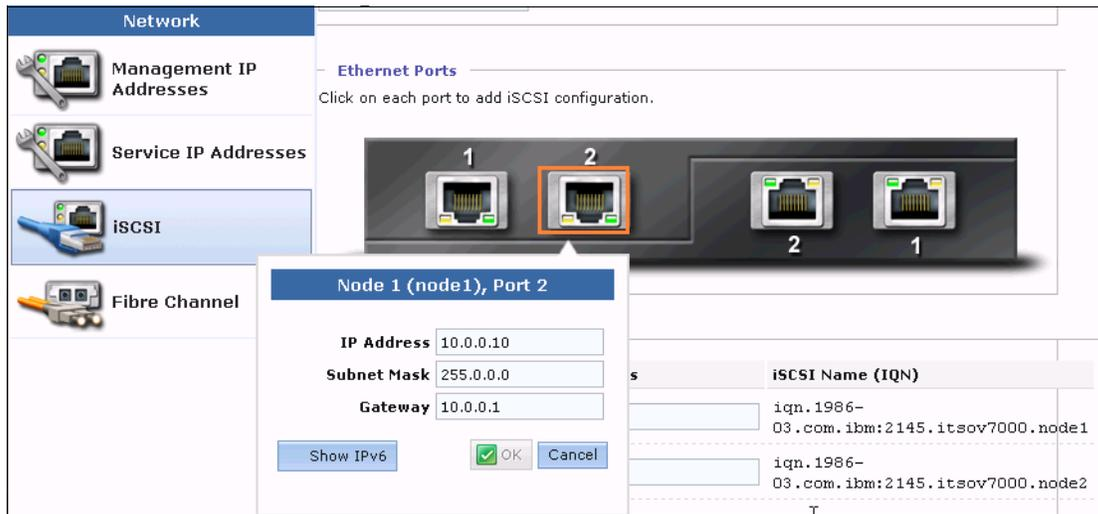

Figure 10-118 Node 1
- a. For each port, enter the IP address, subnet mask, and gateway (Figure 10-118). Then click **OK**.